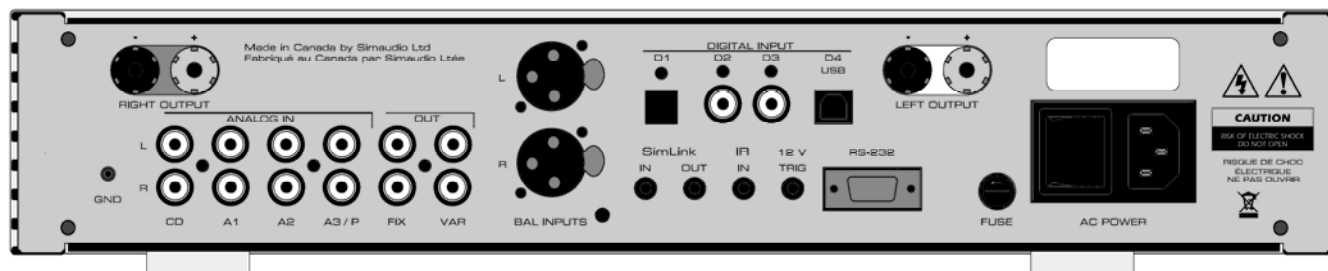

Figure 4: MOON i3.3 Rear panel
The rear panel will look similar to Figure 4 (above). There are four (4) pairs of single-ended analog inputs on RCA connectors labeled CD, A1, A2 and A3/P. The left channel inputs are located on top and the corresponding right channel inputs are located directly below. In the event that your **MOON i 3.3** is equipped with the aforementioned optional phono section, the input labeled ‘A3/P’ must be used to connect your turntable interconnect leads to this integrated amplifier. If you don’t have the optional phono section installed, then this input can be used in the same way as CD, A1 and A2 inputs.